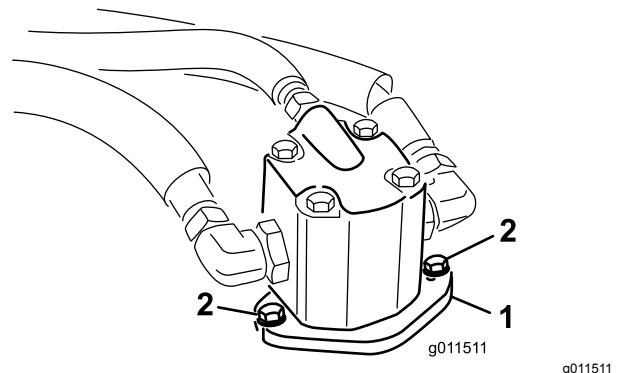

Figure 94
4. Remove the bolts securing the hydraulic motor to the mower deck (Figure 94).